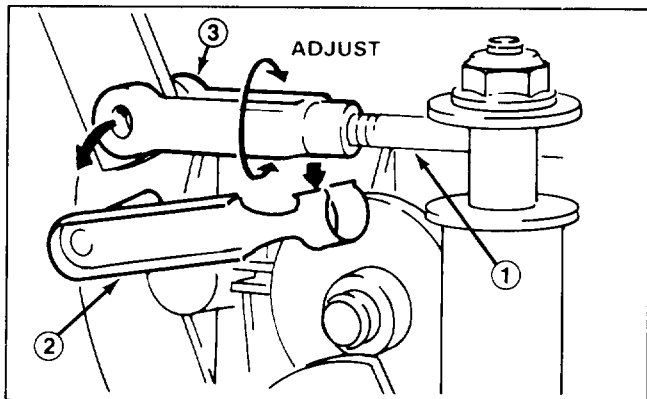

Figure 21
14. Locate deck engagement rod end on left side of transmission (Fig. 21). Remove clevis pin retainer and rotate clevis to lengthen or shorten rod until desired clearance between belt and pulley is attained.